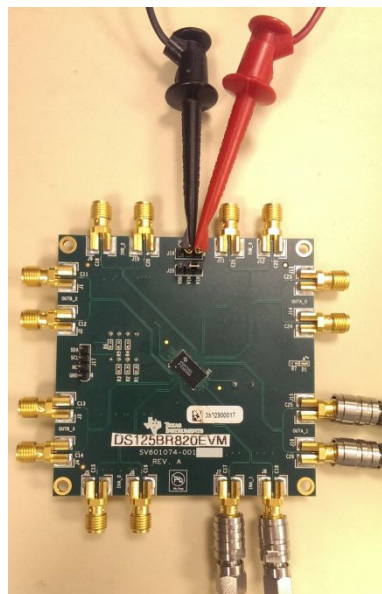

Figure 29. EVM Board with Power and High-Speed Signal Connected
5. Provide a valid high speed data signal from a generator to one of the channels on the DS125BR820EVM, and connect the output of the same channel to a high speed oscilloscope. Provide power to the EVM as shown in Figure 29.